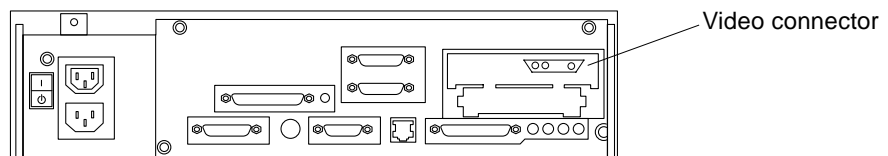

Figure 5-8 ZX Board Video Connector
- 2. Connect the monitor to the system unit video connector.** See Figure 5-8.